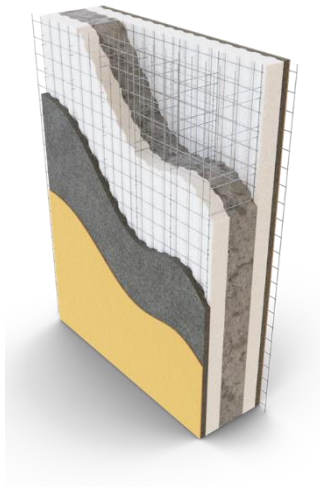

Fig 1.
- The double panel is made up of two basic single panels, shaped as required and joined together by double horizontal connectors tying the two panels together throughout the section (acting as the rebar). This creates a hollow core which is then filled with the concrete of required strength to meet the project needs. (See Fig 1.)